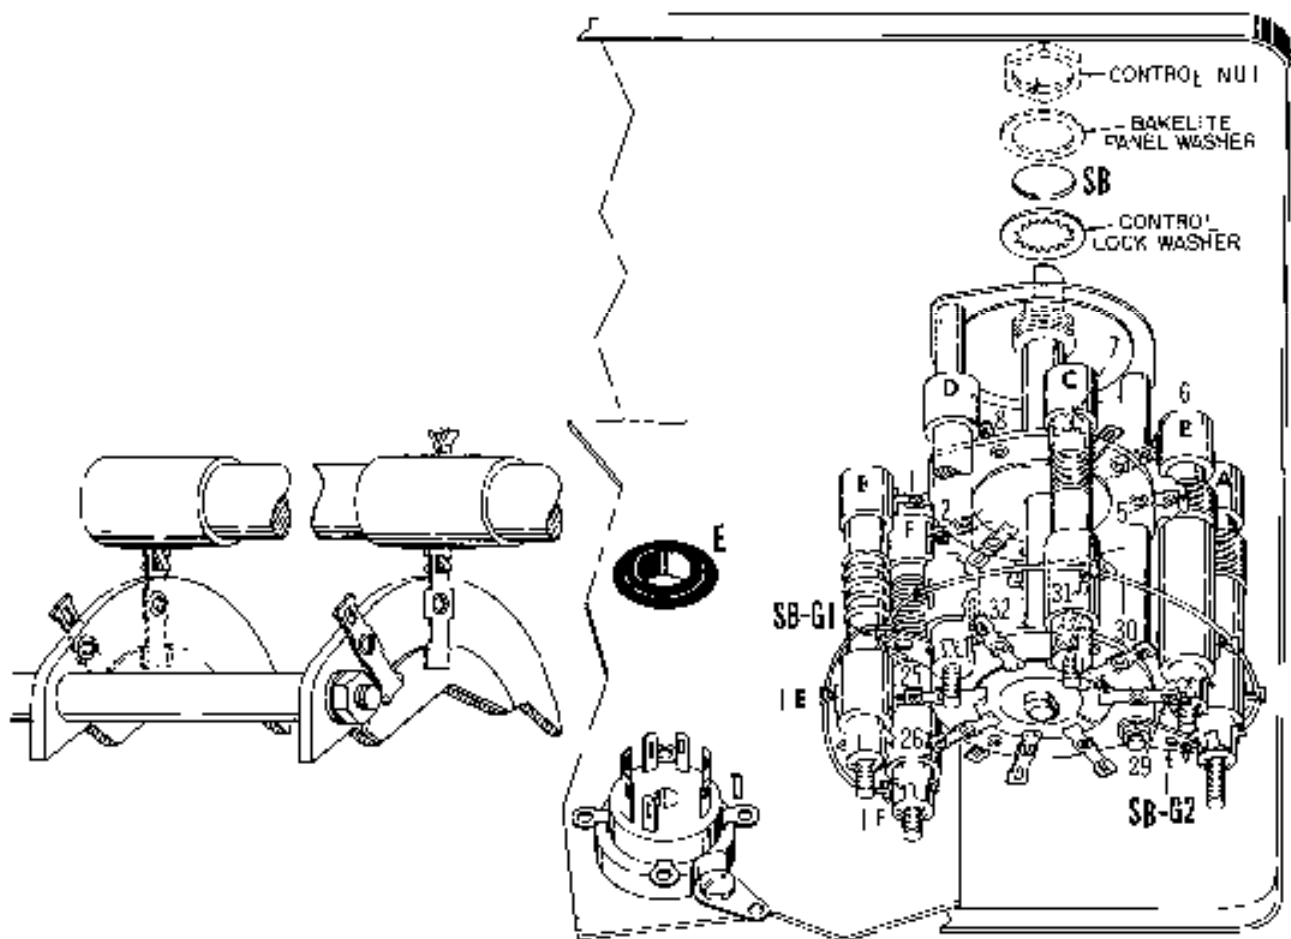

FIGURE 9
- () 23 Install the band switch at location SB. Use a control lockwasher, a Bakelite panel washer and control nut. See Figure 9. With the switch turned fully counterclockwise, position the flat on the shaft so that it is opposite the Band "A" marking on the panel. Tighten the control nut.
REFER TO FIGURE 9
Figure 9 The coils are labeled with letters which correspond to the band. The coils are adjusted at the factory for proper calibration. Do not turn the slug adjustments. See calibration procedure in this manual.
- () 38. Slip a 2-1/4" length of thin bare wire through terminal LE to LF (Solder). Connect the other end to ground lug SB-G1 (Don't Solder). Now solder LE. See Figure 9